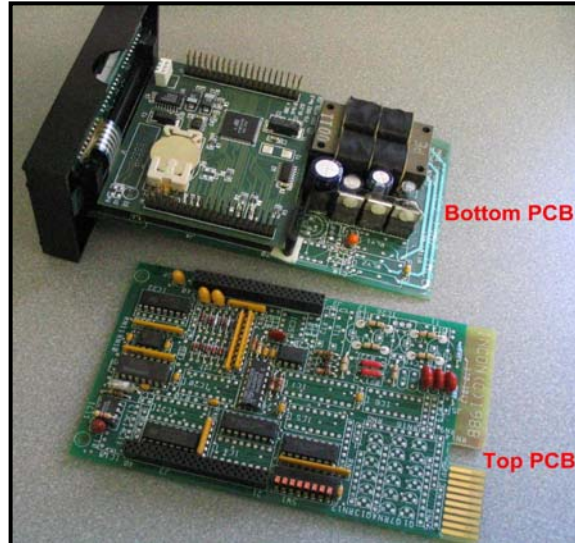
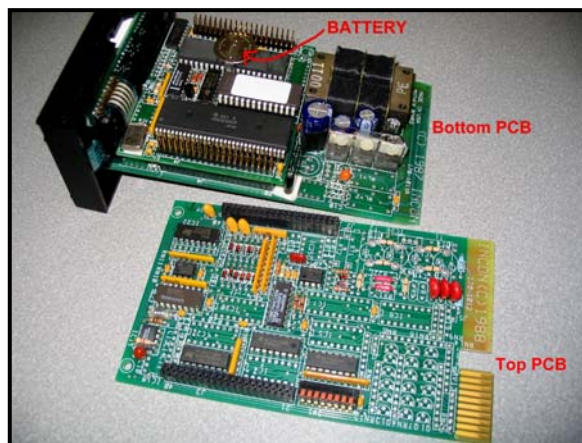
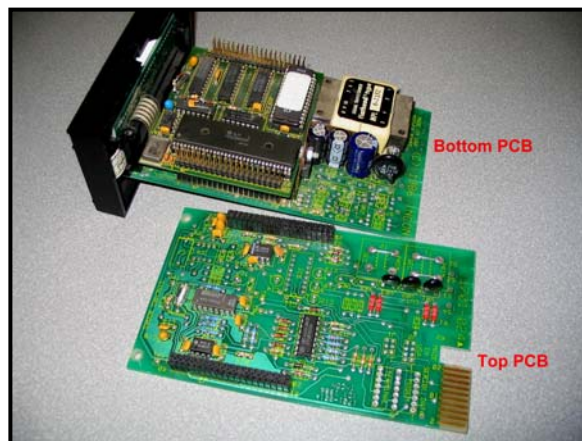

Figure 1 Battery Never Needs Replacement
Figure 2 Battery Needs Replacement
Figure 3 No Battery
- All 1250A and 1250B units made after serial number 86000 use the “new” Processor Board already (see Figure 1) and do not require the battery to be changed.
- Some later model 1250A’s up to serial number 86000 will need to replace the battery. See Figure 1 and 2 to determine if you need to replace your battery. 1250A’s with PCB configuration as shown in Figure 2 will need battery replacement. 1250A’s with PCB configuration as shown in Figure 3 do not have a battery.